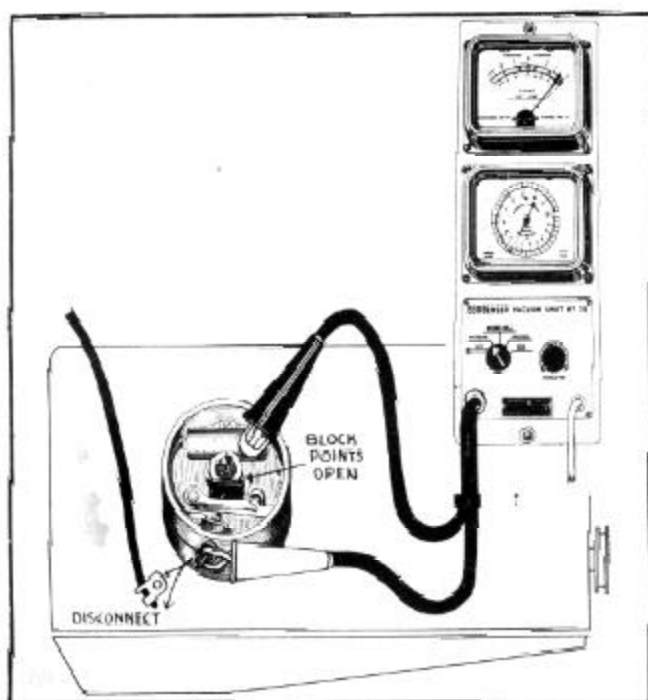

FIGURE 15
4. After calibrating the condenser tester, leave switch in "Microhm" position and connect the red lead to the distributor primary terminal and the black lead to the distributor housing, Figure 15.